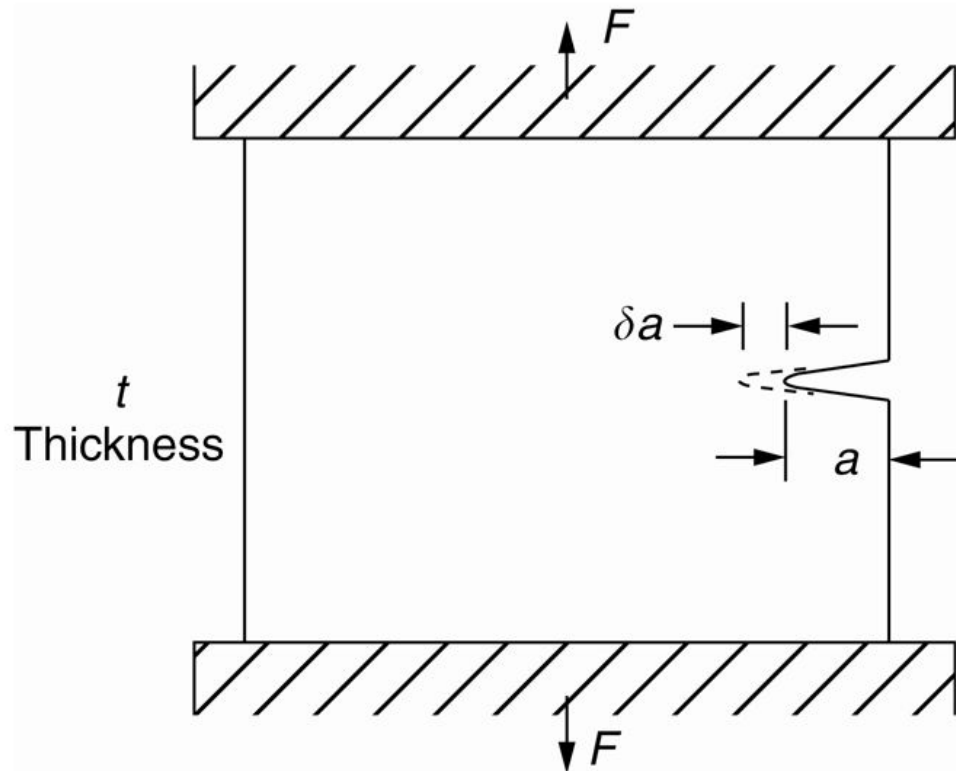

Figure 13.2
- The plate shown in Figure 13.2 is clamped under tension so that its upper and lower ends are **fixed**. Since the ends cannot move, the forces acting on them can do no work, and $\delta W = 0$.